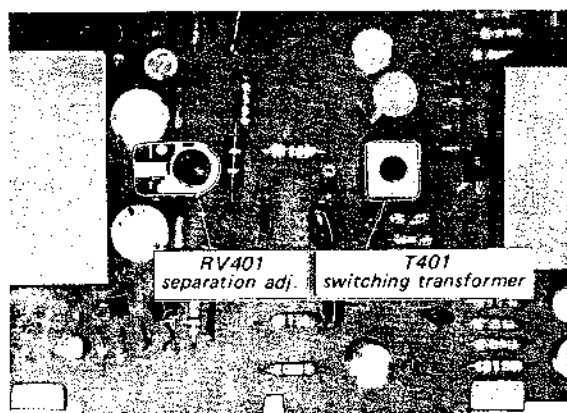

Fig. 3-7. Adjustment parts location
1. Precisely tune the set to the carrier frequency of stereo signal generator, then turn the top core of switching transformer T401 (see Fig. 3-7) to obtain maximum output at the left channel. Note that this adjustment has a close relationship with stereo distortion.
4. The output-level to residual-level ratio represents the separation. Adjust separation adj. control RV401 (see Fig. 3-7) for minimum residual level. Check the right channel for separation. Usually, about an 8 to 9 dB difference in channel separation exists. Readjust RV401 for minimum difference between left and right-channel separation. While doing this, remember that the output level also changes according to the setting of RV401.